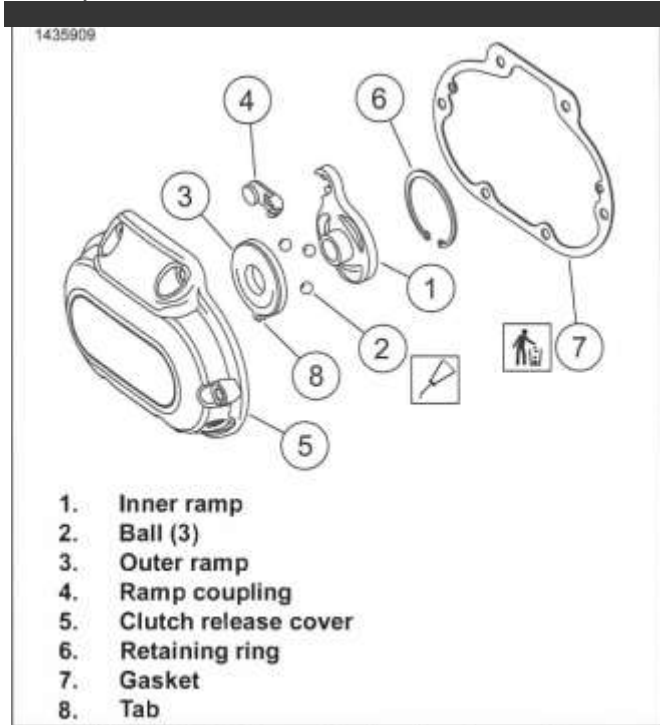

Figure 5-4. Release Mechanism Assembly
2. See Figure 5-4. Remove clutch release cover (5).
3. Discard gasket (7).
1. See Figure 5-4. Wash the ball and ramp mechanism components in cleaning solvent.
2. Inspect the three balls (2) and ball socket surfaces on ramps (1,3) for wear, pitting, surface breakdown and other damage. Replace as necessary.
3. Check fit of the ramp coupling (4) on inner ramp (1). Replace both parts if there is excessive wear.
4. Inspect the retaining ring (6) for damage or distortion.
6. Check the bore in the clutch release cover (5) where the ramps (1, 3) are retained. There should be no wear that would cause the ramps to tilt, causing improper clutch adjustment.